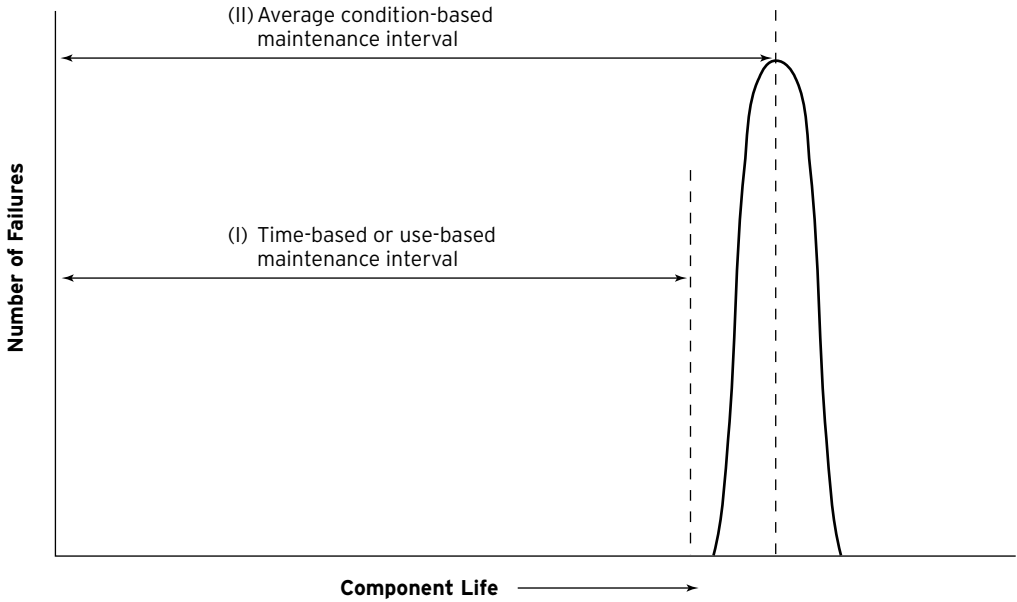

Figure 2-6. Scheduling replacement maintenance for parts with predictable life expectancies
condition-based. Maintenance intervals for these plans are shown as intervals (I) or (II) in Figure 2-6.